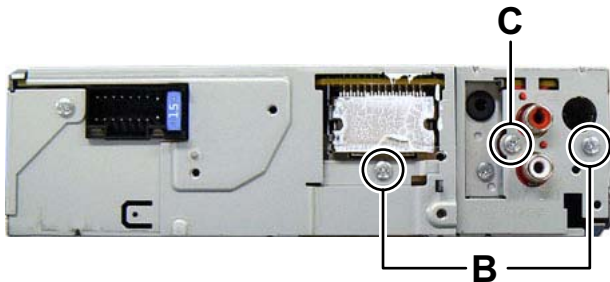

Fig.2
- (2) Remove the two screws **B** and one screw **C** attaching the Bottom chassis. (See Fig.2)
- (3) Slide to backward and then remove the Bottom chassis.